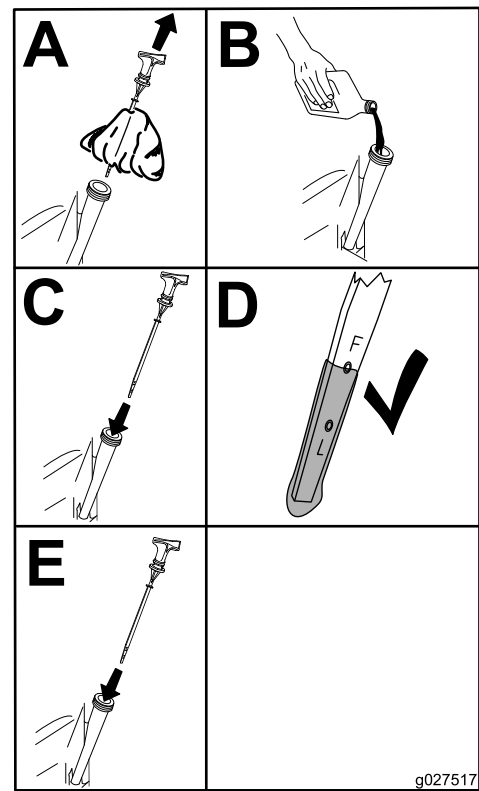

Figure 63
6. Slowly pour approximately 80% of the specified oil into the filler tube and slowly add the additional oil to bring it to the Full mark (Figure 63).